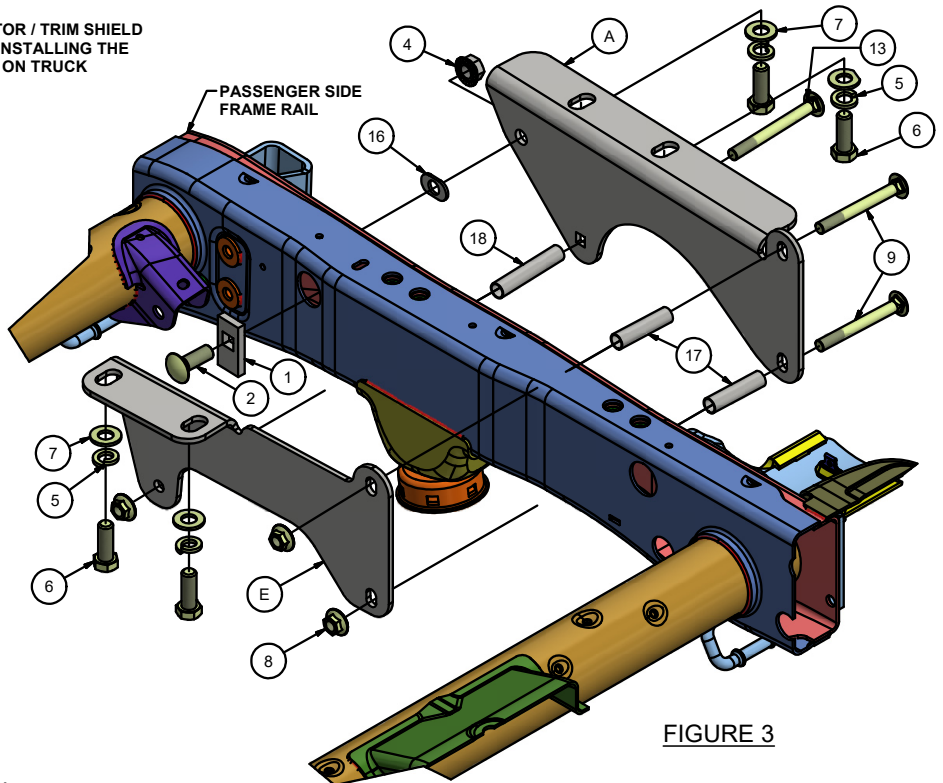
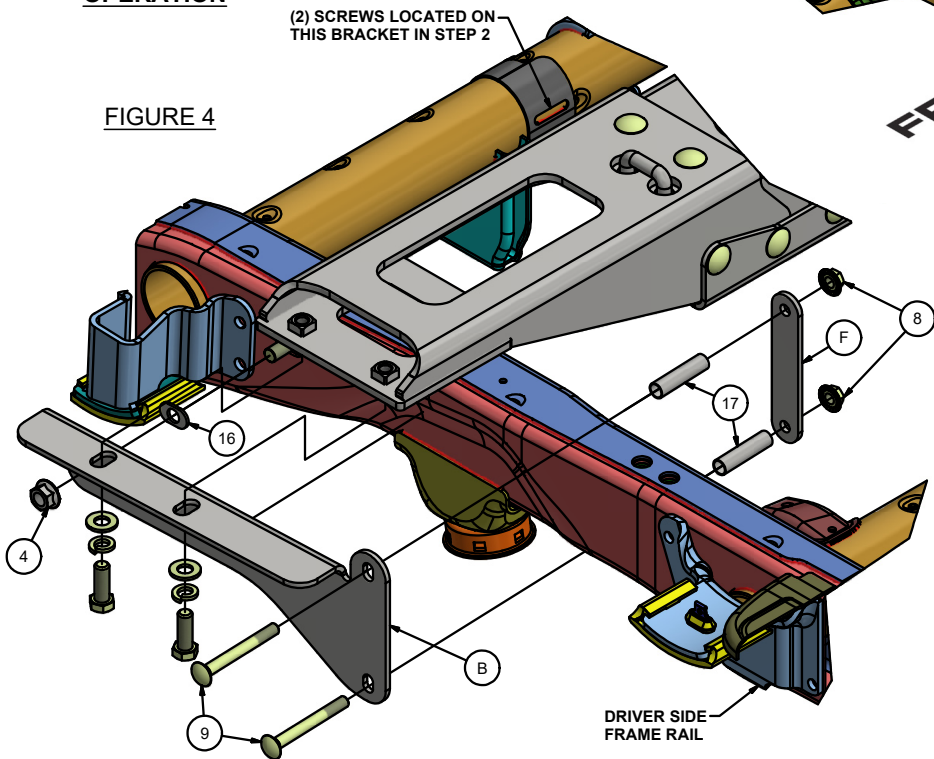
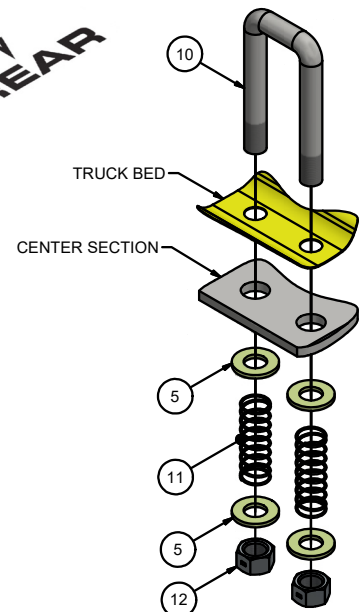

FIGURE 3
FIGURE 4
FIGURE 5
2. Using a 10mm socket, remove the 2 screws that attach the wire harness bracket to the steel cross member to prevent damage when raising the center section into position **FIGURE 4**. Save for later re-installation.
6. From under the truck loosely install the frame attachment plates (items A, B, E, and F in the parts list) to the frame as shown in **FIGURE 3** and **FIGURE 4**.
7. Loosely install the (6) 5/8" Hex bolts, lock washers and flat washers attaching the frame attachment plates to the center attachment plates.
8. Tighten the fasteners in the following order: (4) 5/8" vertical center section fasteners, (7) 5/8" horizontal center section fasteners, (6) 5/8" hex bolts, (2) 5/8" frame attachment plate fasteners, remaining 1/2" fasteners.
10. Check the area above the bed for any obstructions before drilling the 3/16" guide hole for the ball. Drill a pilot hole from underneath the truck bed through the hole in the center locator / trim shield (J) using a 3/16" drill bit. Move to above the truck, drill a 3 1/4" hole through the bed of the truck using a hole saw with the 3/16" pilot hole as a guide. Install the CM-UE1 rubber edge trim around the edge of the cut hole and trim to length.
13. Install the safety chain U-bolt assemblies as shown in **FIGURE 5**, ensure they sit flat when in the lower position and slide easily without binding. Enlarge holes as needed for proper operation. Deburr holes and spray exposed metal with rust inhibitor. The nuts should be tightened until flush with the bottom of the U-bolt.